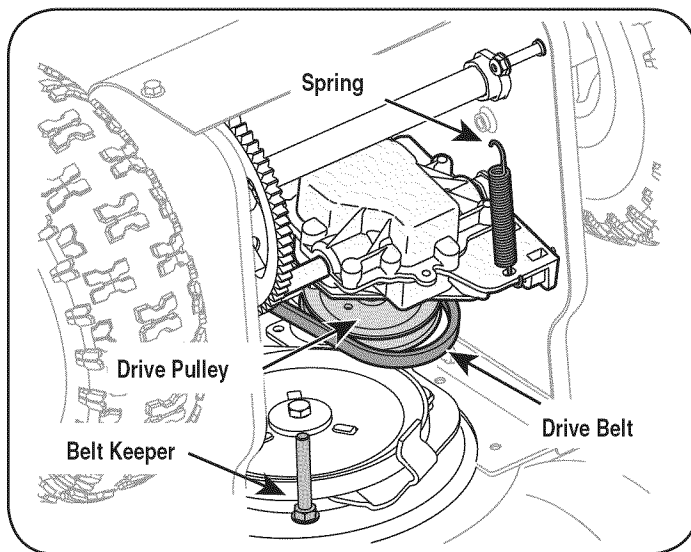

Figure 19
1. Tip the snow thrower up and forward so that it rests on the auger housing. Remove the belt keeper as called out in Figure 19. Return the snow thrower to its upright position to complete the following steps.
2. Remove the spring that connects the transmission to a bolt on the engine frame. See Figure 19.